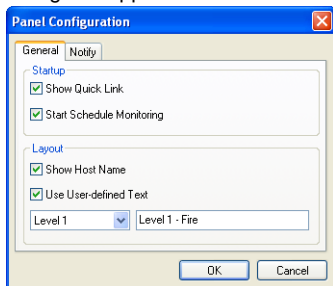

Figure 4-35
- To open the Quick Link window at panel startup, check the **Show Quick Link** option in Figure 4-35.